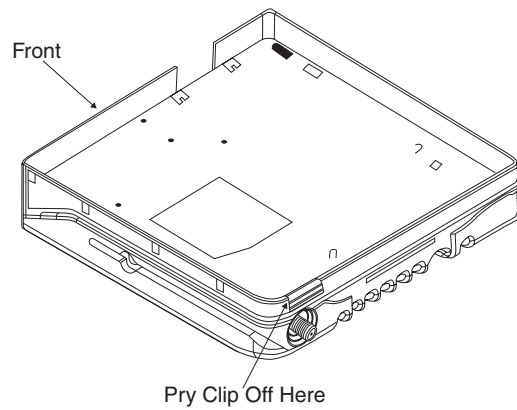

Figure 27. Removing the Antenna Connector Retaining Clip
1. Remove the antenna connector retaining clip by inserting a small flat-blade screwdriver or like instrument between the clip and the top of the cavity wall as shown in Figure 27. Gently pry upwards.